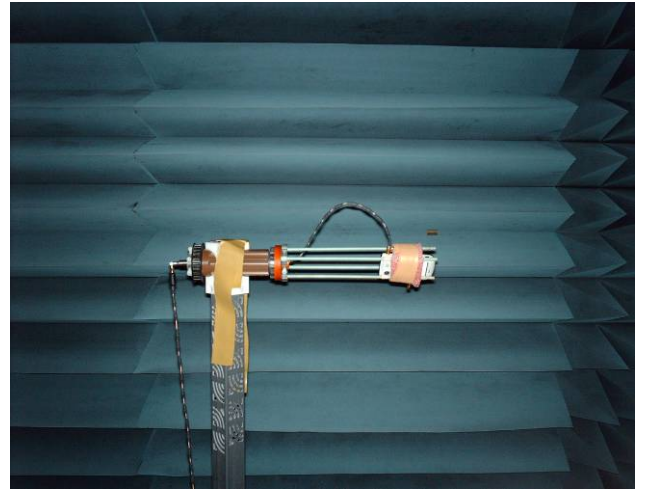

Figure. 4
- B. The antenna under tested is arranged in the turned table and a decoupling sleeve is used to reduce feed line radiation (see figure. 4).